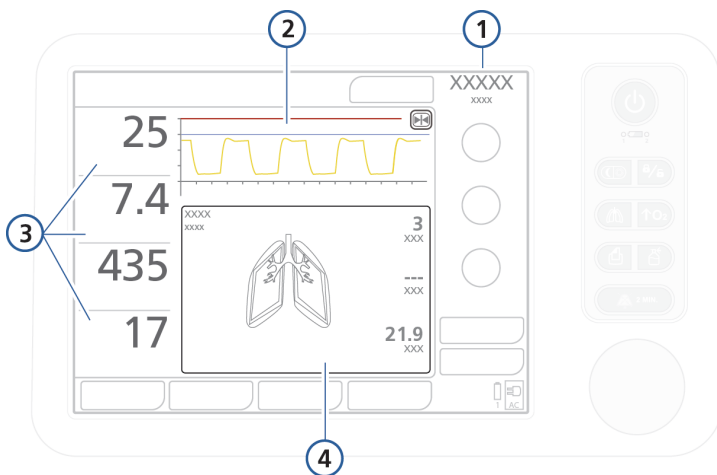

Figure 6-1. Main display
During ventilation, you can view patient data on the HAMILTON-T1 screen (Figure 6-1). You can configure the screen layout with different waveforms, loops or trends, or with Intelligent Panel graphics to suit your institution's needs. Access the Monitoring window at any time without affecting breath delivery.
- The pressure/time waveform. This graph is always displayed and is not configurable. See item 4 in Figure 6-1.